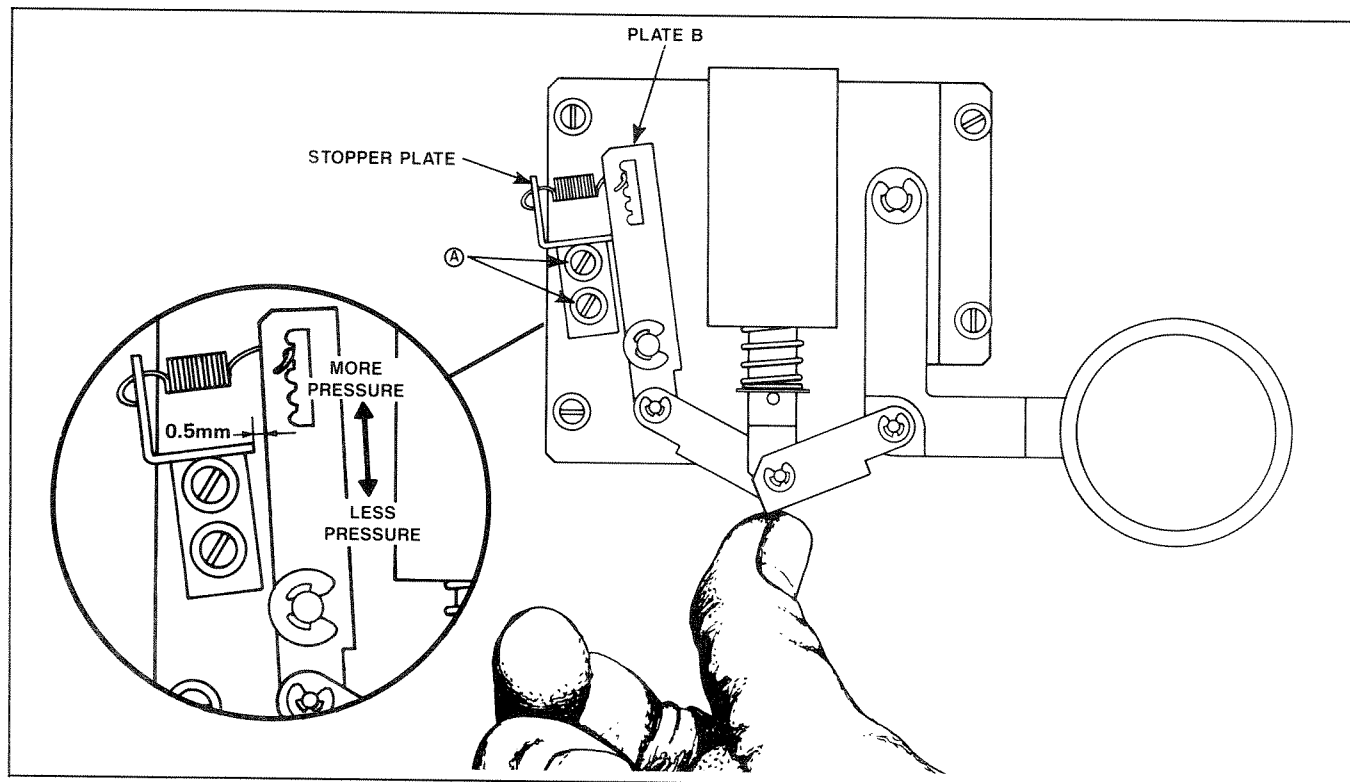

Figure 6-21. Spring Adjustments
STEP 8 Set the tension spring so that the pinch roller guide pressure is $2.5\text{kg} \pm 0.3 \text{ kg}$ (refer to Figure 6-21, Spring Adjustments).